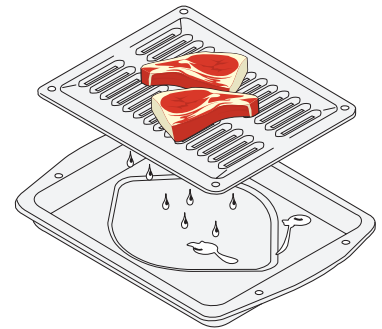

Fig.1 (some models)
5. Place the insert on the broil pan (if equipped), then place the food on the insert (if equipped; See Fig. 1).
1. Open oven door completely (horizontal with floor - See Fig. 1).
3. Fully open the oven door (horizontal with floor - See Fig. 1).